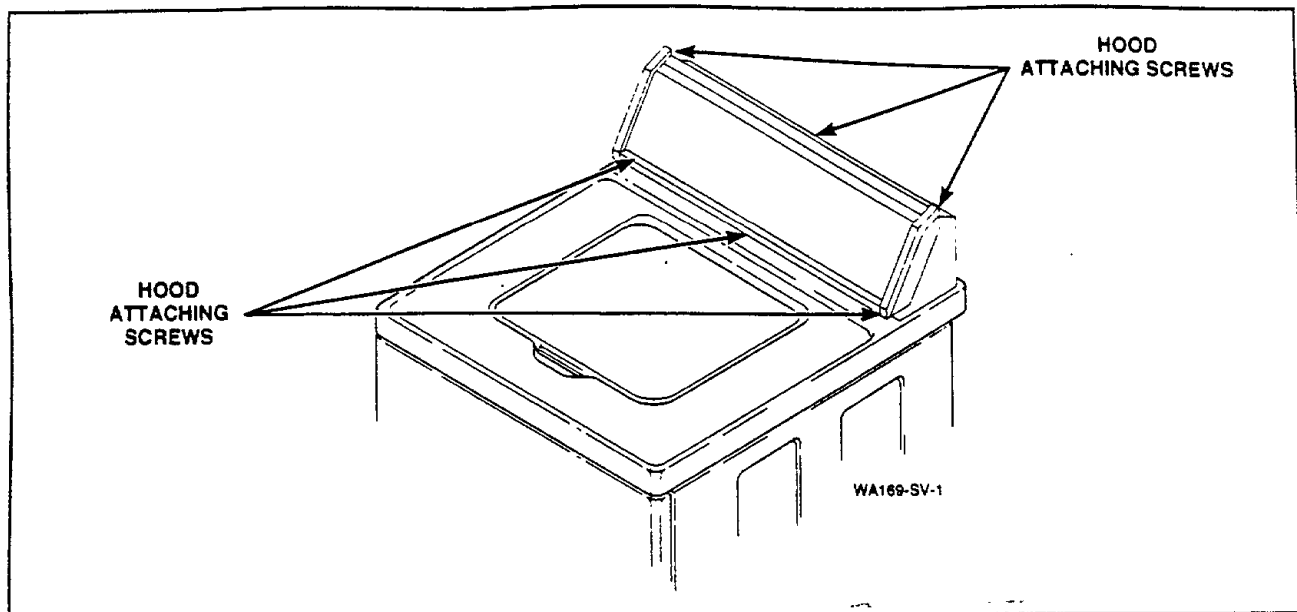

Figure 38
- Remove six screws (3 on top and 3 at lower front) holding the control hood assembly to the control hood rear panel and cabinet top, *Figure 38*.
- Remove six screws (3 on top and 3 at lower front) holding control hood assembly to the control hood rear panel and cabinet top, *Figure 38*. Then set hood assembly on cabinet top on protective padding.